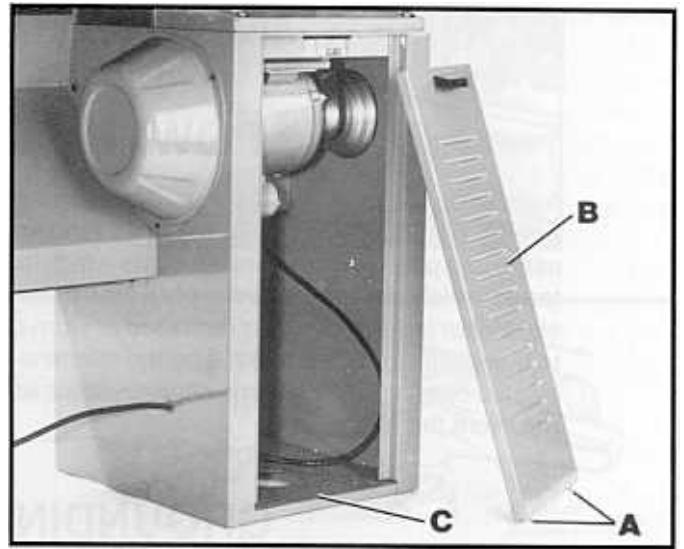
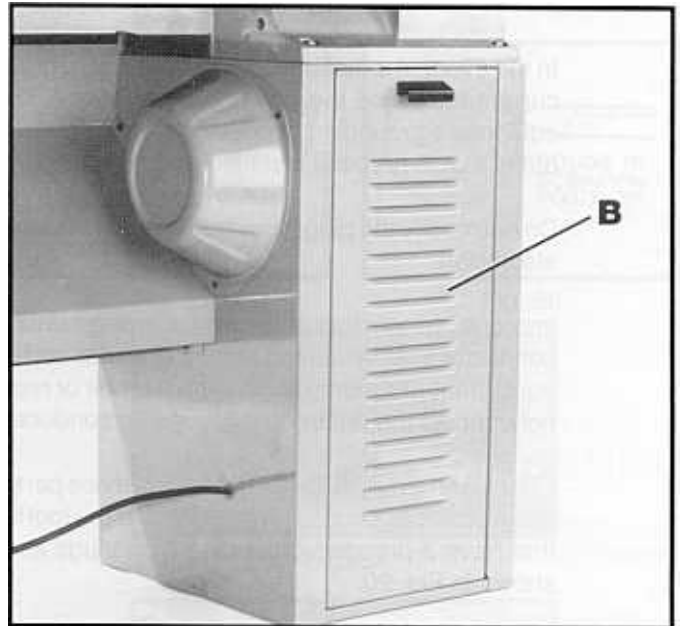

Fig. 17
Fig. 18
1. Insert the two pins (A) Fig. 17, located on bottom of door (B) into the two holes on bottom of headstock base (C) and assemble rear door (B) as shown in Fig. 18.